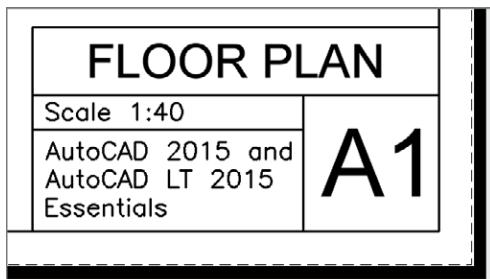

FIGURE 13.5 Annotative text shown in two scales
9. Change the Annotation Scale to $1/2" = 1'-0"$ (or 1:20 for metric) in the status bar. The text you created appears much smaller. This text will appear $1/8"$ high in $1/2" = 1'-0"$ scale (or 0.4 cm in 1:20 scale). Select the text object, and observe both scales simultaneously (see Figure 13.5). Press Esc to deselect.